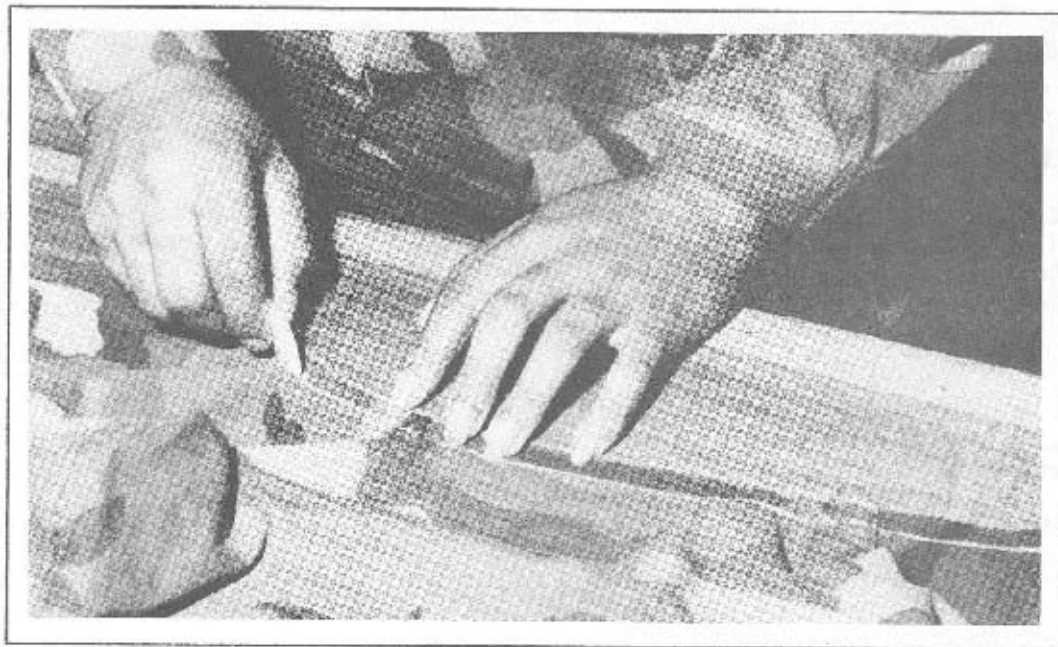

Figure 3-69
- d. Position the top piece of the collar on the shirt neck so the fold line overlaps the first seam by 1/8-inch. (See Figure 3-69)